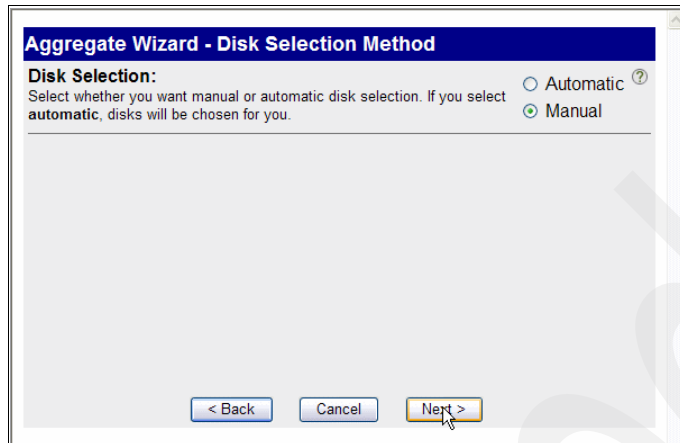

Figure 7-11 Aggregate Wizard: Disk Selection
5. As shown in Figure 7-11 on page 209, you can choose automatic or manual disk selection. Automatic disk selection means that the disks are automatically selected for you. Manual disk selection means that you can choose the disks yourself.